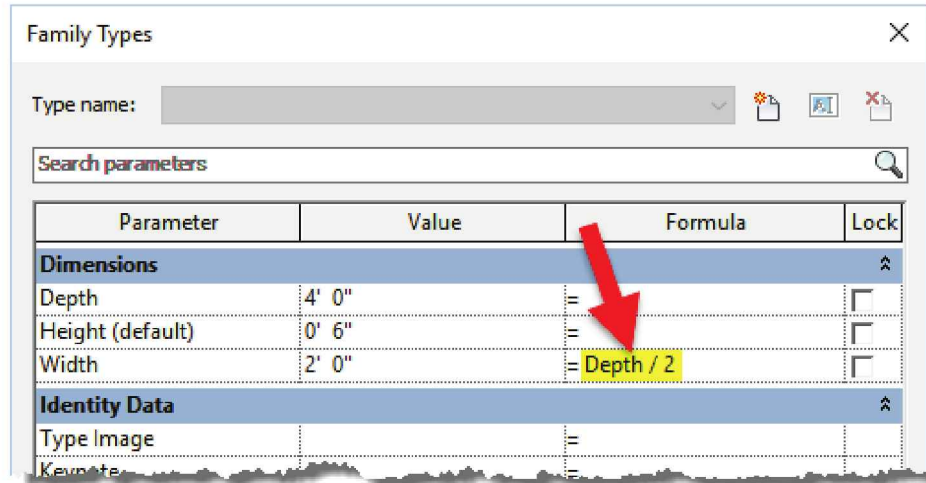

FIGURE 18-4.3 Adding formula to control the width
- For the *Width* parameter, in the *Formula* column, enter the following: **Depth/2** (see Figure 18-4.3).
Notice the Width *Value* is now half of the Depth, i.e., 2'-0" (see Figure 18-4.3).